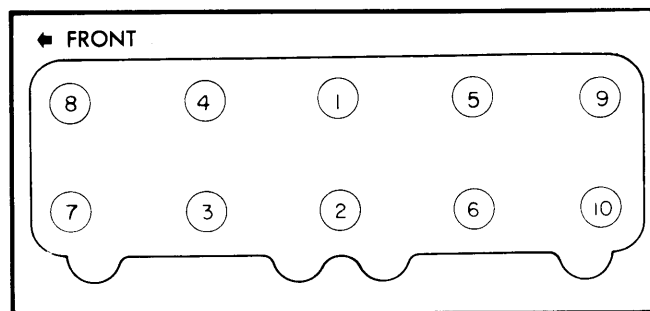

Fig. 3 Cylinder Head Bolt Tightening Sequence
3) Using tightening sequence shown in Fig. 3, tighten head bolts to 36 ft. lbs. (50 N•m) and rocker shaft nuts to 11 ft. lbs. (15 N•m). Place angular head torquing tool (8.0129) on 2 center bolts (1 and 2). Completely loosen No. 1 bolt and retighten to 14 ft. lbs. (20 N•m). Keep tool in place and maintain tension on torque wrench.